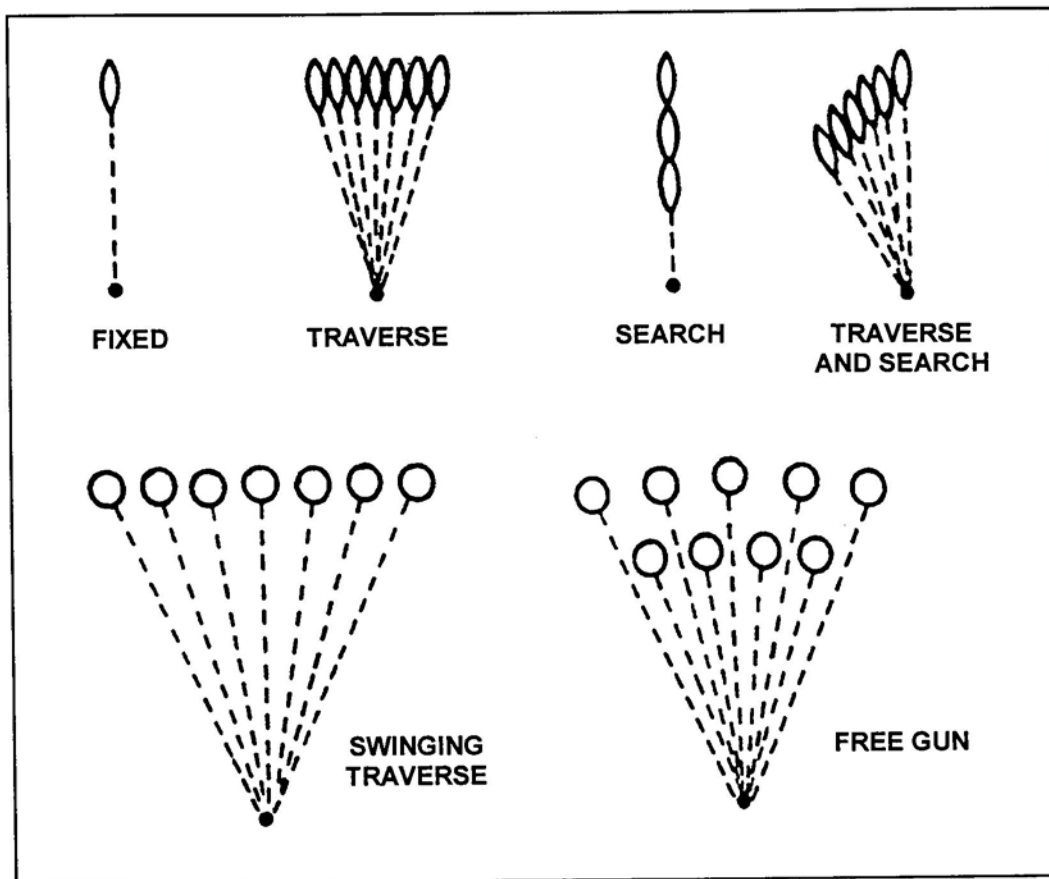

Figure 8. Techniques of fire with respect to the gun.
3. Apply the correct engagement technique based on target type (Figure 8).